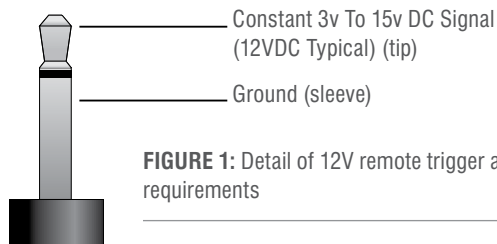

FIGURE 1: Detail of 12V remote trigger and mini-plug connector requirements
(6) 12V REMOTE TRIGGER: A 1/8" (3.5 mm) mini-plug connector is provided on the rear panel for remotely switching the amplifier between Operational and Standby modes. When connected to another component with the proper circuitry, the amplifier standby function can be turned ON and OFF remotely in a custom installation, theater, or automated system setup. (See FIGURE 1)